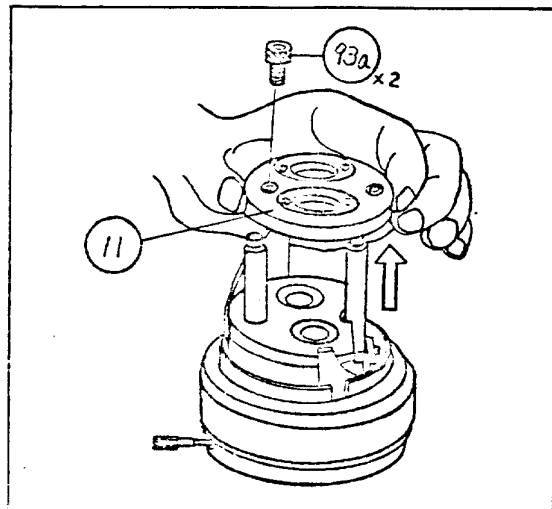

Fig. 43
- 5) Unscrewing the screws (93a)  $\times 2$ , remove the bottom plate (11) (Fig. 43).